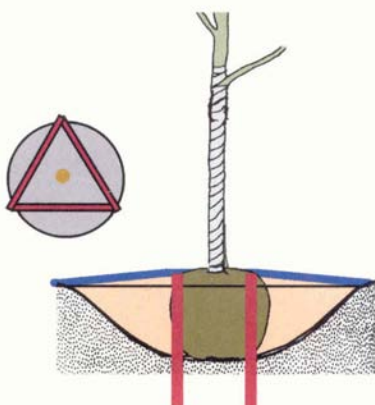

Figure 28.
- **2 to 3 wood dowels** driven into the ground at edge of root ball. The dowels will decompose over time. (Figure 28.)
- **2-by-2 wood triangle screwed into 2-by-2 wood stakes** driven into the ground at edge of the root ball. The wood will decompose over time. (Figure 28.)